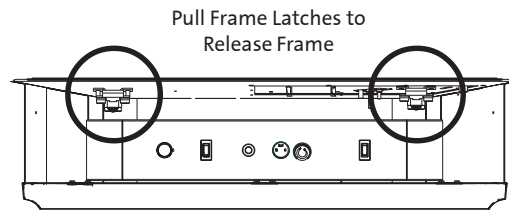

Figure 38. Glass Frame latch locations.
- 1. Remove the Glass Frame, if you have not already done so.** Open the lower control panel and locate the two frame latches under the firebox floor. See fig. 38. Pull the latch handle forward to disengage it from the bottom of the glass frame. You can then pull the frame out and up off of the three retainer tabs at the top of the firebox opening. Set the Glass Frame out of the way.